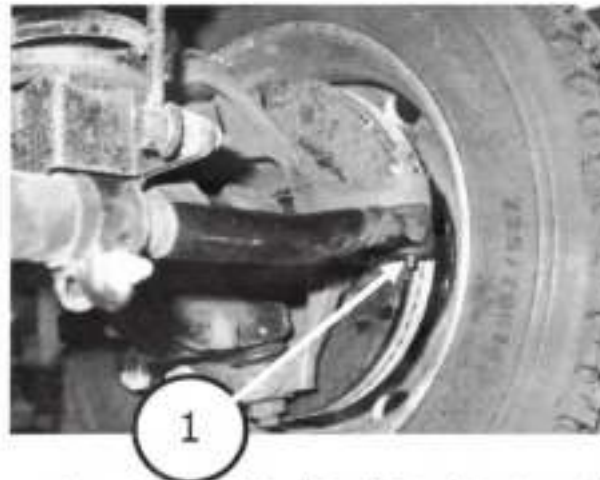

Figure 1 – Tie Rod End Ball Stud Bottom Plane
2. Make sure the circular bottom plane of the left and right Tie Rod End Ball Studs are free of debris and remove any burrs completely. (Fig. 1)